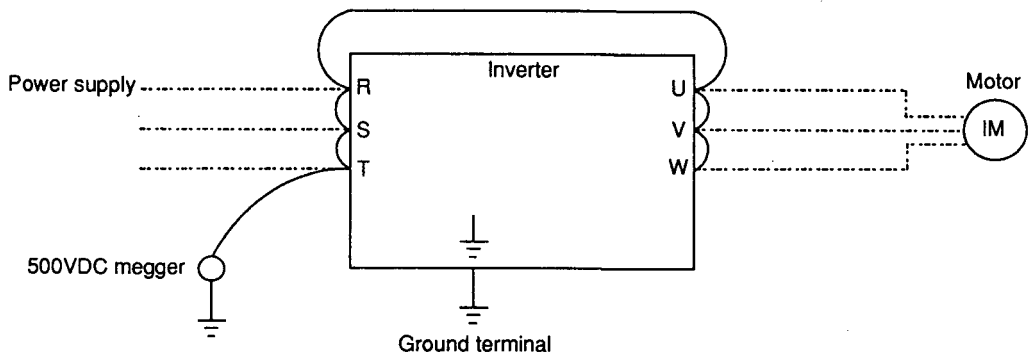

Fig. 12.1 Insulation Resistance Test Using Megger
(3) Insulation resistance test using megger
- (b) For the inverter, conduct the insulation resistance test on the main circuit only as shown in Fig. 12.1 and do not perform the test on the control circuit. (Use a 500VDC megger.)